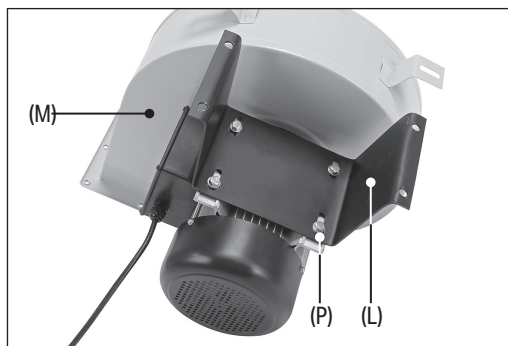

Fig. 2
- a. Align the holes in the base of the motor/ducting unit (M) and the motor support (L).
- b. Pass the four M8 x 25mm bolts (P) each through a washer (S) and up through the underside of the motor support and motor/ducting unit (Fig. 2).